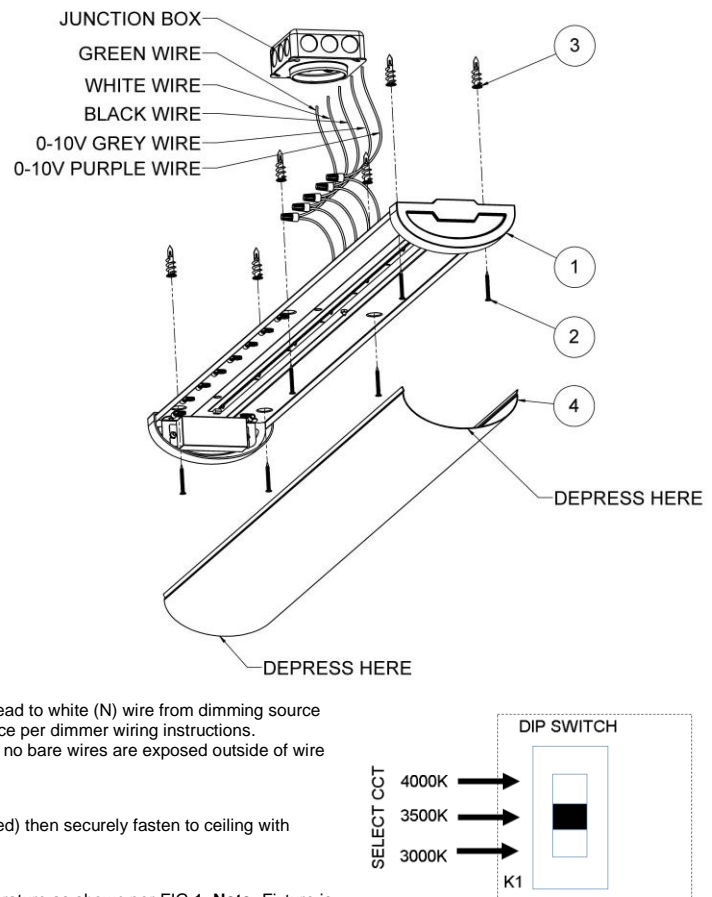

FIG. 1
- Adjust the single dipswitch at the end of the LED board accordingly to the desired color temperature as shown per FIG 1. **Note:** Fixture is preset to 3500K from factory.